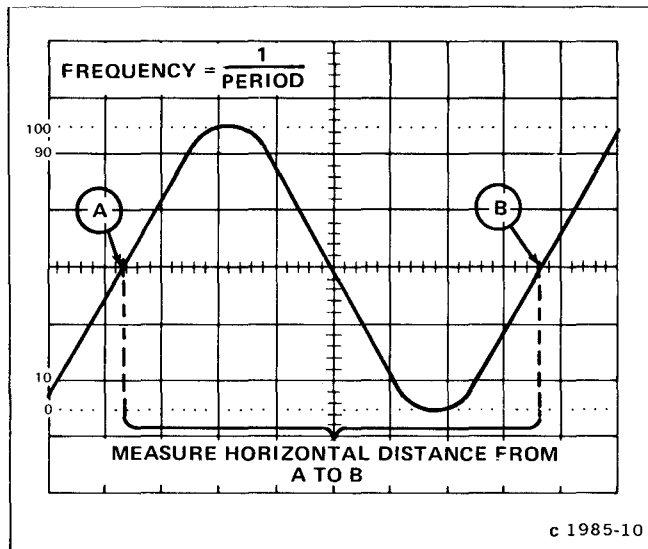

Fig. 2-5. Measuring the period and determining the frequency of a displayed waveform.
6. Set the TIME/DIV switch and POSITION controls for a complete cycle displayed within the center 8 graticule divisions as shown in Figure 2-5.
Example: Assume that the horizontal distance over 1 complete cycle is 7 divisions, and the TIME/DIV switch setting is .1 ms (see Fig. 2-5).